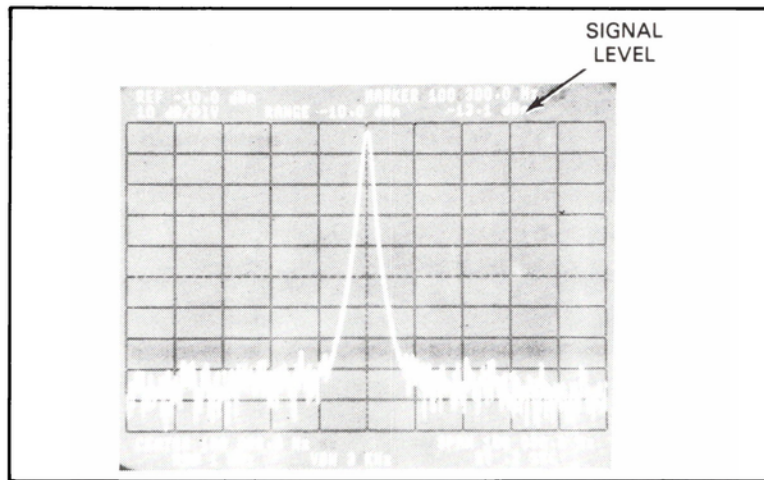

Figure 7-22. Mixer Conversion Loss Test Adjustment
- f. Signal level must be ≥ -18 dBm (See Figure 7-22). Record the signal level on the Performance Test Record card.